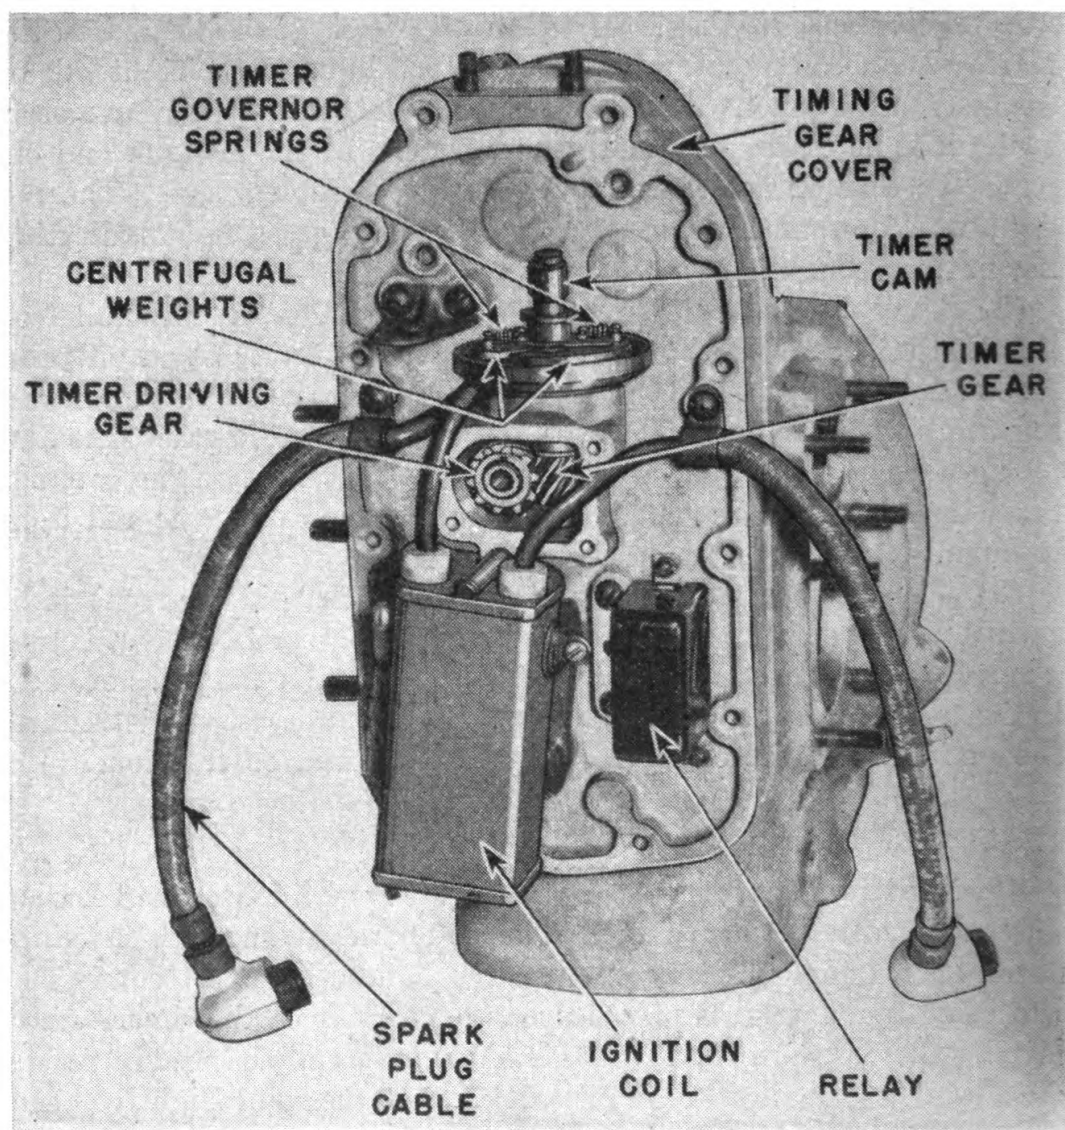

FIGURE 105.—Automatic spark advance on circuit-breaker.
**88. Ignition system.**—*a.* Both the Harley-Davidson and Indian shaft-driven models have an automatic spark advance which eliminates the manual spark control on the handle bars. It consists of two centrifugal weights placed around the rotor of the timer or circuit-breaker, as shown in figure 105. When the engine speed increases, these weights spread out and in so doing turn the rotor slightly ahead. This changes the relative position of the breaker cams and advances the time of spark occurrence. When the engine slows down, small springs pull the weights inward and retard the spark.